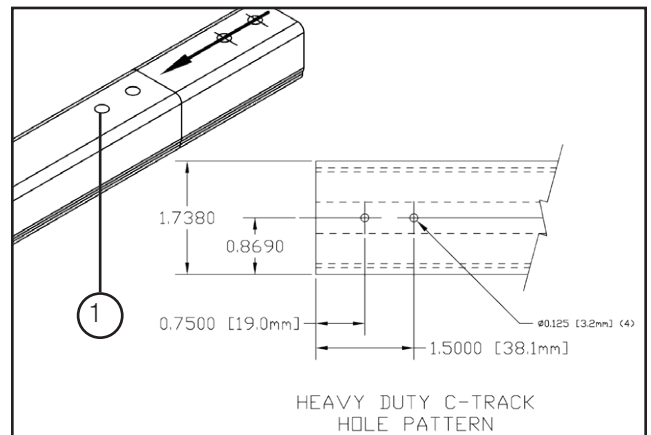

Figure 7-3
2. If C-Track must be shortened, the hole pattern must be transferred to the new cut length. See **Figure 7-3**.